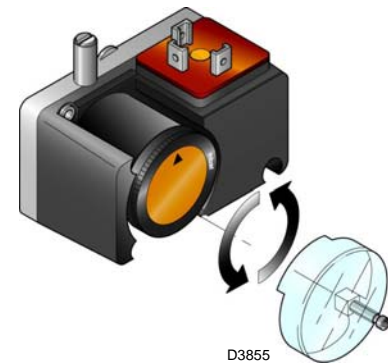

Fig. 38
- Adjust the minimum gas pressure switch (Fig. 38) to the start of the scale.
Adjust the minimum gas pressure switch after performing all the other burner adjustments with the pressure switch set to the start of the scale (Fig. 38).